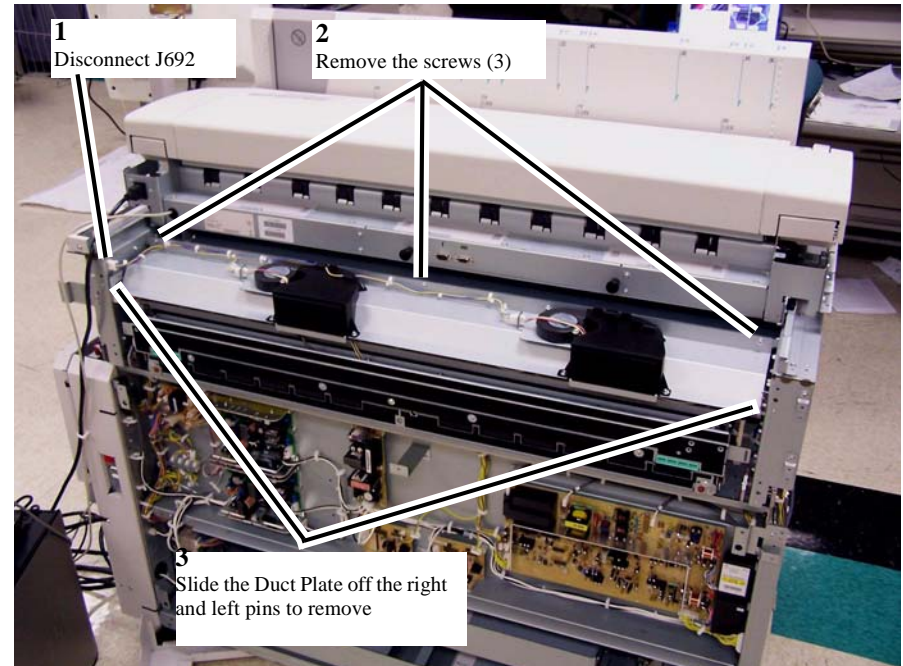

Figure 1 Duct Plate removal
3. Remove the Duct Plate (Figure 1).